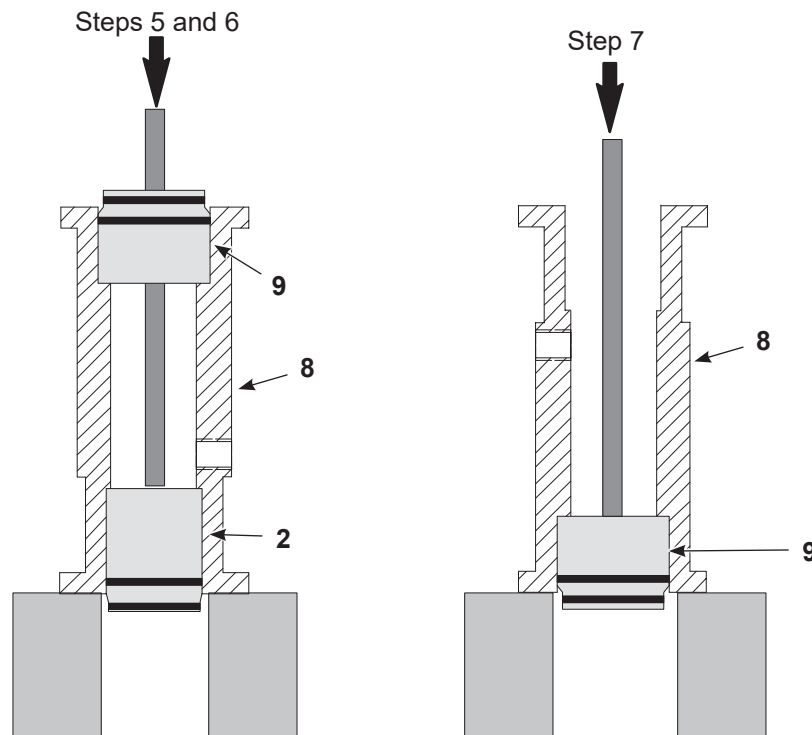

Figure 7-3 Hydraulic Section Disassembly—Steps 5, 6, and 7
5. See Figure 7-3. Place the high pressure sleeve (8) upside down on two wood blocks so that the upper flange is resting on the blocks and the projecting portion of the upper packing gland (2) is between the blocks.
6. Insert a long brass rod through the center of the lower packing gland (9) until it contacts the lip of the upper packing gland. Drive the upper packing gland out of the sleeve.